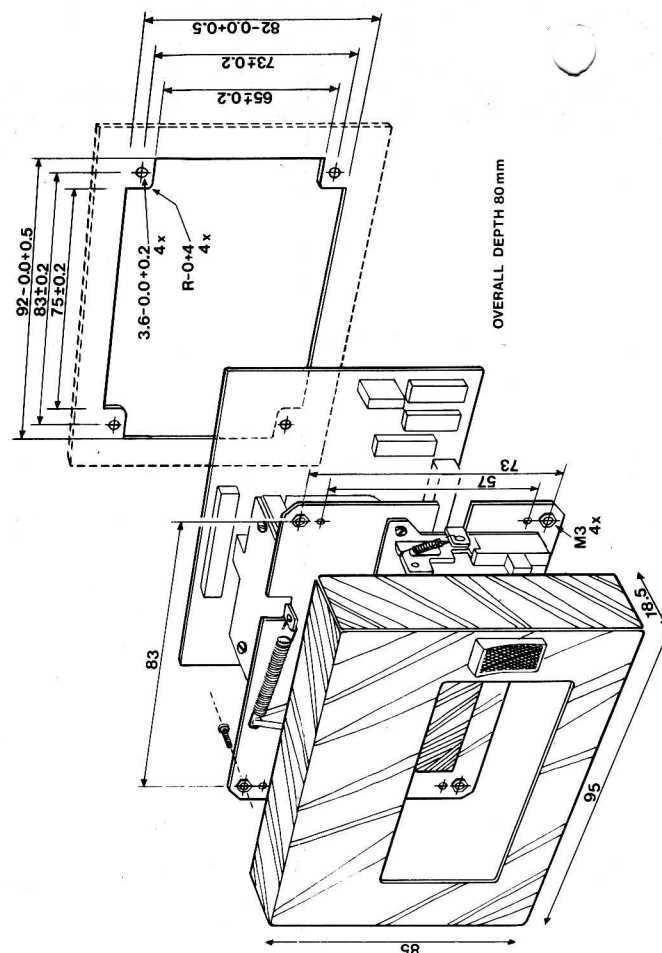

Fig. 1. Mini-DCR — Physical Dimensions.
- Fig. 1. Mini-DCR — Physical Dimensions
Physical dimensions	: see fig. 1
8920 405 10301	: MCR 210 with front cover (see fig. 1)
8920 405 10401	: MCR 220 with front cover (see fig. 1)